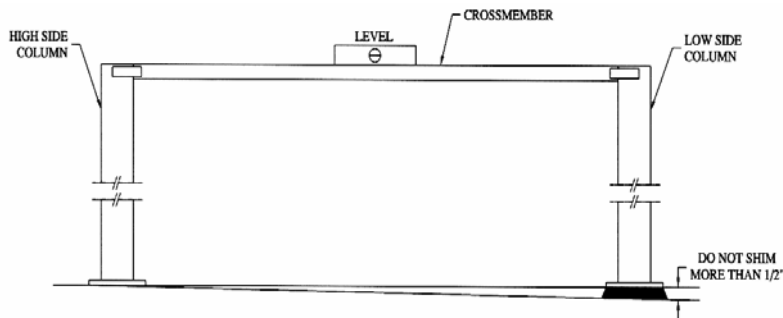
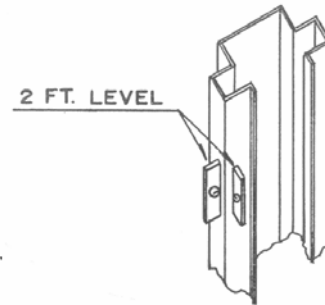
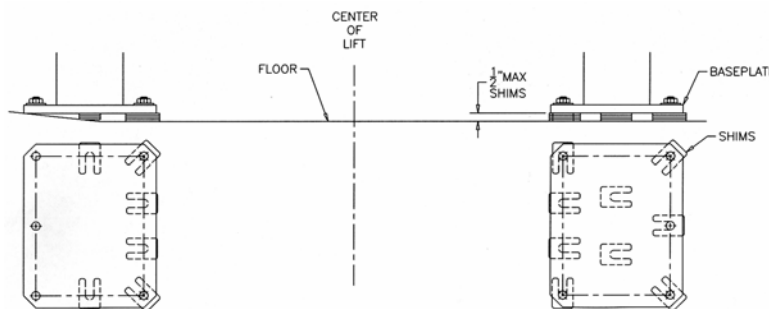

Figure 14
Figure 15
Figure 16 - Shims
- Using a 4ft. level on top of the crossmember, determine which column is higher. Refer to **Figure 14**.
- Using a 2ft. level on the sides of the high column, ensure that the column is level in the vertical position (**Figure 15**). Use shims under the column baseplate to hold the column level. Ensure that the base plate is completely supported by shims where it does not contact the floor (**Figure 16**).
5. Reconfirm that the column is level front to rear and side to side (**Figure 15**). Add or remove shims as required.
1. Using a 4ft. level on top of the crossmember (**Figure 14**) and a 2ft. level on the low side column (**Figure 15**), shim underneath the baseplate until the crossmember and column are level. Ensure that the baseplate is completely supported by shims where it does not contact the floor (**Figure 16**).
4. Reconfirm that the column is level front to rear and side to side (**Figure 15**). Add or remove shims as required.